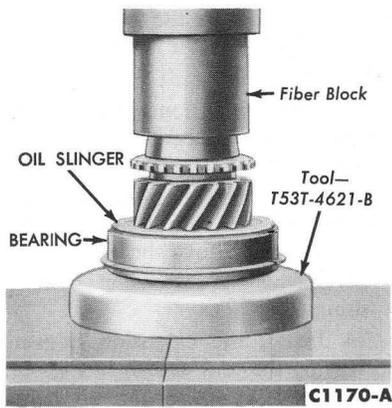

FIG. 7—Input Shaft Bearing Installation
1. Press the input shaft bearing and oil slinger onto the input shaft, using the tool shown in Fig. 7, and install the snap ring on the shaft.